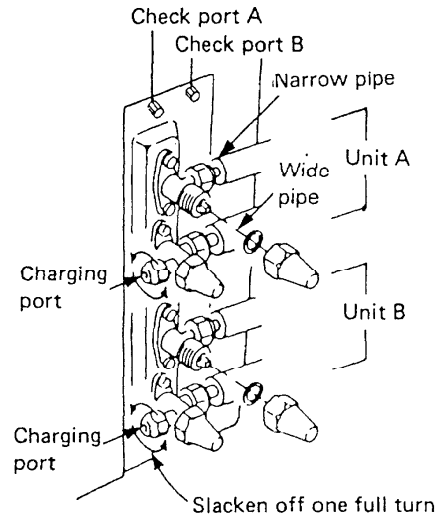

Fig. 11
- b) Slacken off the flare nut at the charging port one full turn. (Fig. 11)